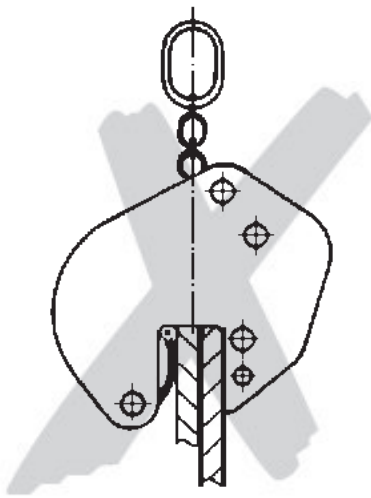

Fig. 2
- Only one load may be transported at a time with the load lifting attachment (Fig. 2).